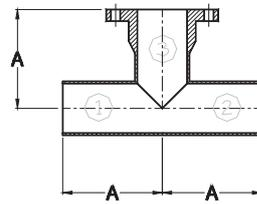
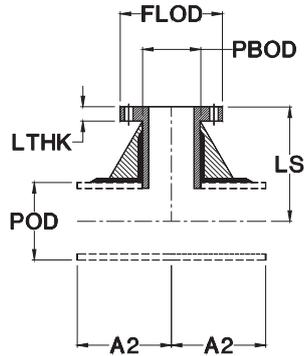
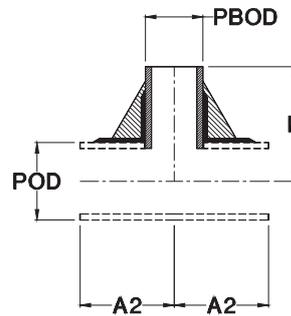

FIG.40PPF
FIG.46
FIG.48
1. These ratings are also valid for flanges (Fig.10, Fig.100, Fig.11, & Fig.15), blind flanges (Fig.16, Fig.19MC, Fig.19MH, Fig.19FC, Fig.19FH), bleed rings (Fig.17), tees (Fig.40, Fig.40PPF, & Fig.40F3), saddles (Fig.46 & Fig.48), reducers (Fig.60 & Fig.61), hemicaps (Fig.96), MNPT saddles (Fig.47JF & Fig.97), and "dummy legs" (Fig.90 & Fig.91). Laterals (Fig.80 & Fig.80F3) and reducing laterals (Fig.88) are only rated to 100psig up to 16" and 50psig up to 60". The FRP FNPTs (Fig.97 and 95F) are only rated to 150psig up to the 2" NPT size.
2. Fig.40PPF and Fig.40FFF tees are all shop-fabricated.
1. The 'A' dimension is based on header size. The 'A2' dimension is based on branch size. The 'LS' dimension is based on both header and branch size; e.g. 3" on 6" Fig. 46 has LS = 9", A2 = 7"